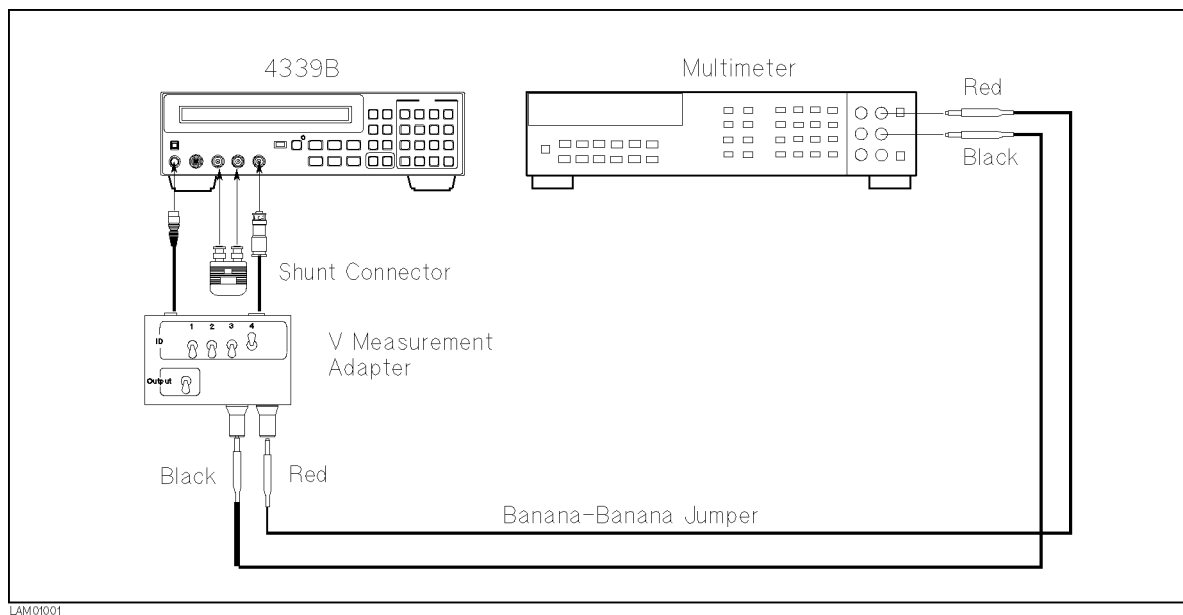

Figure 9-1. Source Voltage Accuracy Test Setup
- Set up the equipment as shown in Figure 9-1.